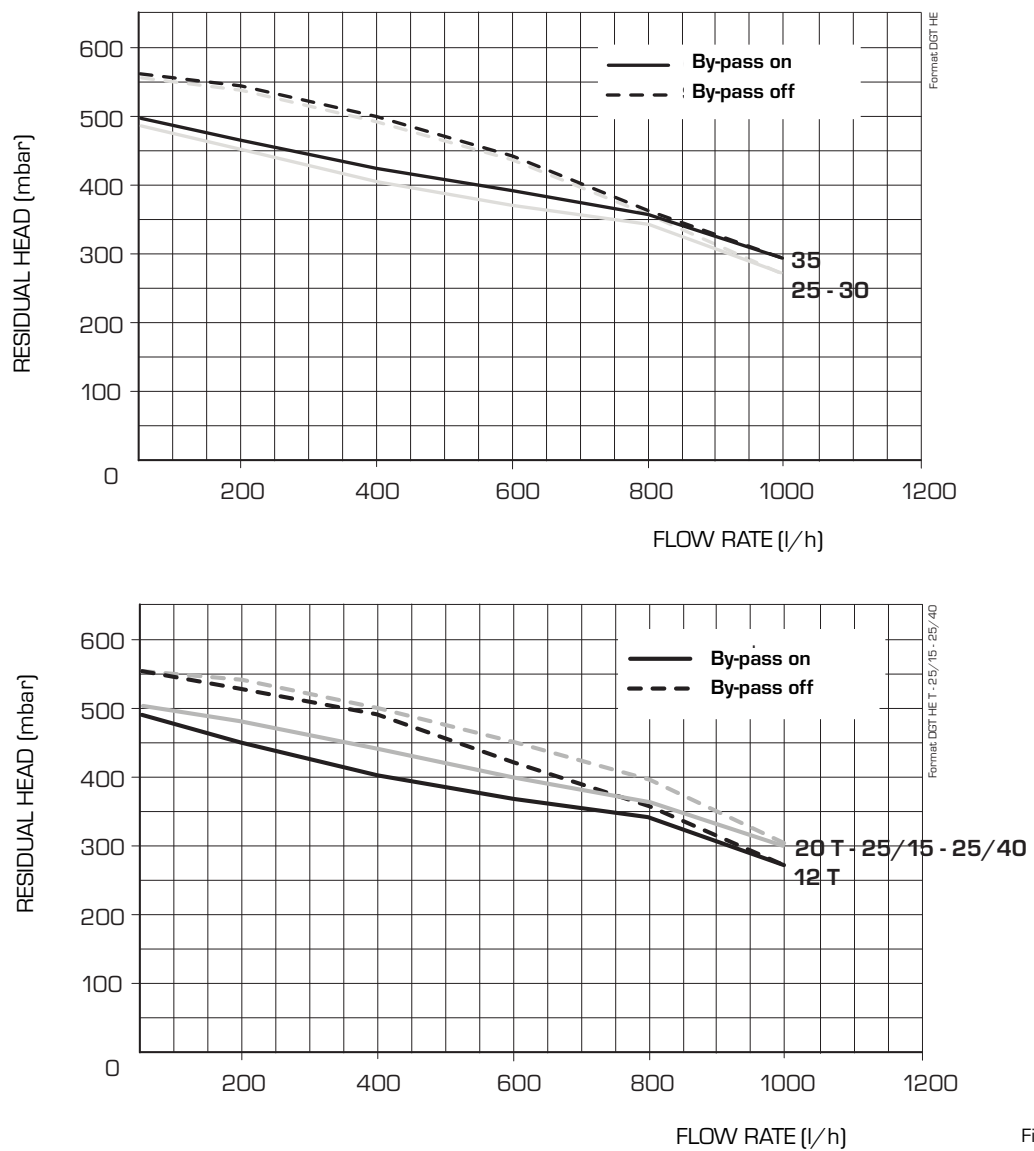
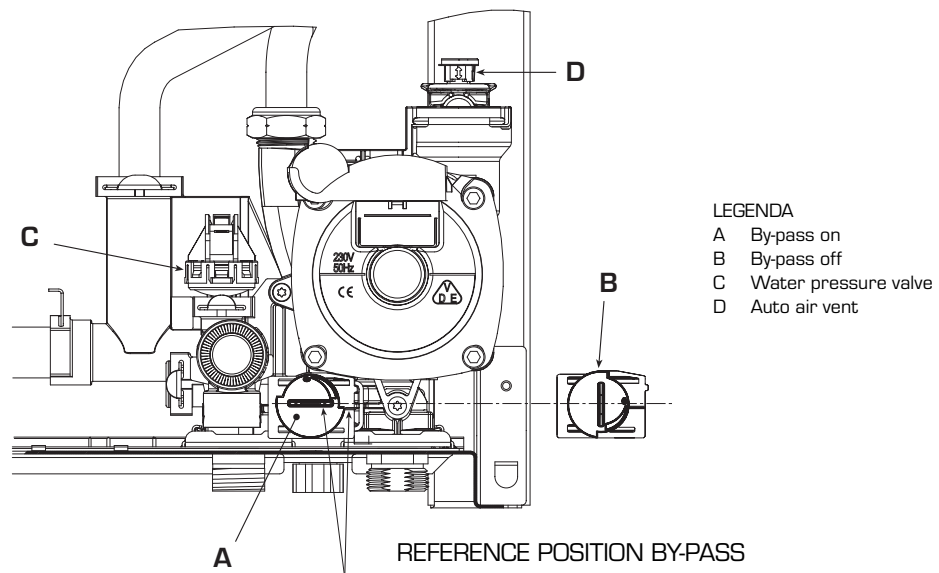

Fig. 14
Fig. 15
The climatic curve to be set can be selected from a value of 3 and 40 (at step 1). Increasing the steepness of the curves of fig. 14 will increase the output temperature as the external temperature decreases.
3.7 HEAD AVAILABLE TO SYSTEM (fig. 14 - fig. 15)
Residual head for the heating system is shown as a function of rate of flow in the graph in fig. 14.
To obtain the maximum head available to the system, turn off the by-pass by turning the union to the vertical position (fig. 15).
3.8 WATER PRESSURE SWITCH (fig. 15)
The water pressure switch (C fig. 15) intervenes, blocking burner functioning, if it detects that there is insufficient pressure in the boiler (< 0,6 bar).